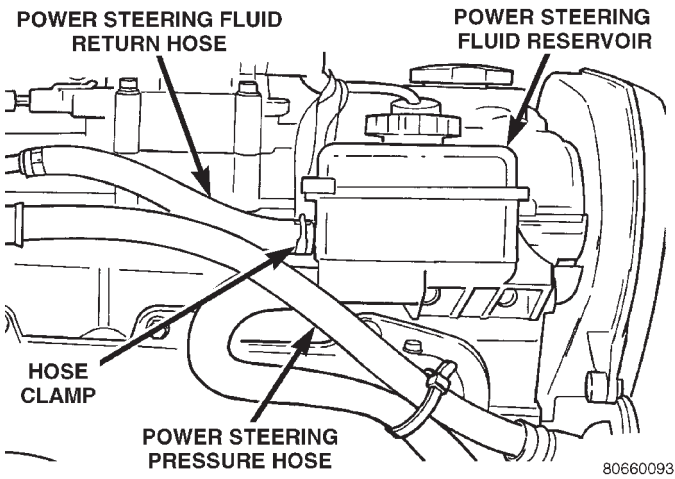
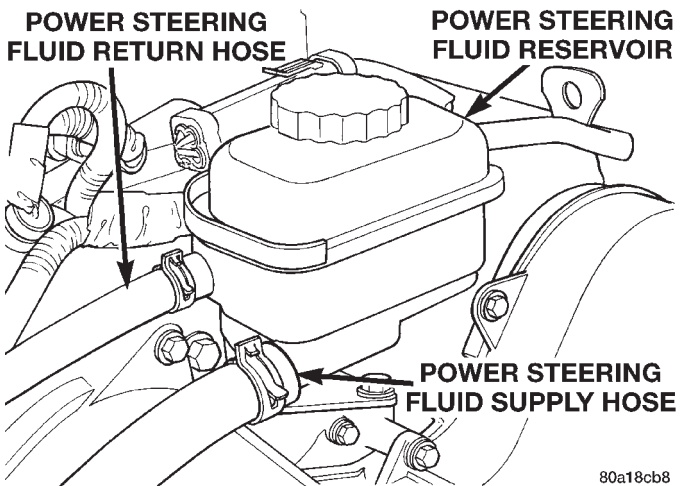

Fig. 18 Power Steering Fluid Return Hose At Reservoir 2.4 Liter
Fig. 19 Power Steering Fluid Return Hose At Reservoir 2.5 Liter
(2) Remove power steering fluid return hose from nipple on power steering fluid reservoir (Fig. 18) and (Fig. 19).
(11) Install power steering return hose on power steering fluid reservoir fitting. Install hose clamp on power steering return hose at power steering fluid reservoir (Fig. 18) and (Fig. 19). **Be sure hose clamp is installed on return hose past upset bead on power steering fluid reservoir.**
(12) Start the engine and let run for a few seconds. Then turn the engine off.
(13) Add fluid if necessary. Repeat the above procedure until the fluid level remains constant after running the engine.
(14) Raise front wheels of vehicle off the ground.
(15) Start the engine. Slowly turn the steering wheel right and left, lightly contacting the wheel stops. Then turn the engine off.
(16) Add power steering fluid if necessary.
(17) Lower the vehicle and turn the steering wheel slowly from lock to lock.
(18) Stop the engine. Check the fluid level and refill as required.
(19) If the fluid is extremely foamy, allow the vehicle to stand a few minutes and repeat the above procedure.
(20) After hose is installed, check for leaks at all hose connections.